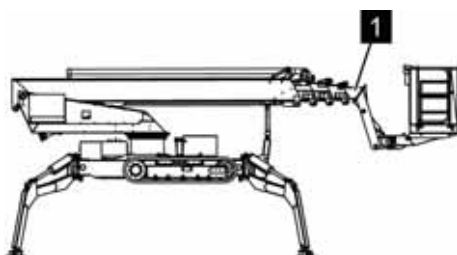

Fig. 136: Securing the boom
2. ➤ Extend the telescopic arm so far that the front boom (Fig. 136/1) can be secured with a belt slip or a trolley.